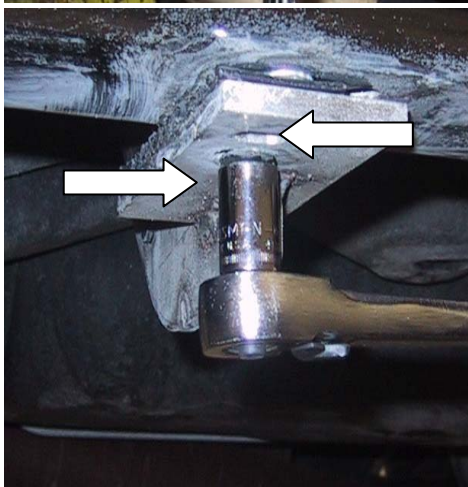

FIG 1-7
- (g) Attach the step tube to the main brackets using six (6) 8mm x 25mm flange head bolts. (fig 1-7)
- ⚠ (h) Torque six (6) 8mm x 25mm flange head bolts to the tube to 13 ft/lbs. (fig 1-7)